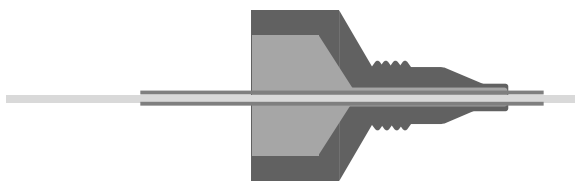

Figure 108: Schematic of the screw-tight fitting with the emitter and sleeve extended out of the front end
5. Take the emitter complete with sleeve and carefully slide the back end into the red screw fitting (found in the MicroTight® union package). Both the sleeve and the emitter should be pushed in far enough so as to extend slightly out of the front end of the screw fitting (see Figure 108)
8. Remove the white gauge plug from the union. Place the black sleeve (SC903) inside the red fitting of the MicroTight Union assembly and insert the open fused silica end of the column into the sleeve. Ensure that the column fused silica and the sleeve extend out of the end of the screw fitting (as in Figure 108) before inserting the fitting into the open end of the red union. Screw down the fitting until the